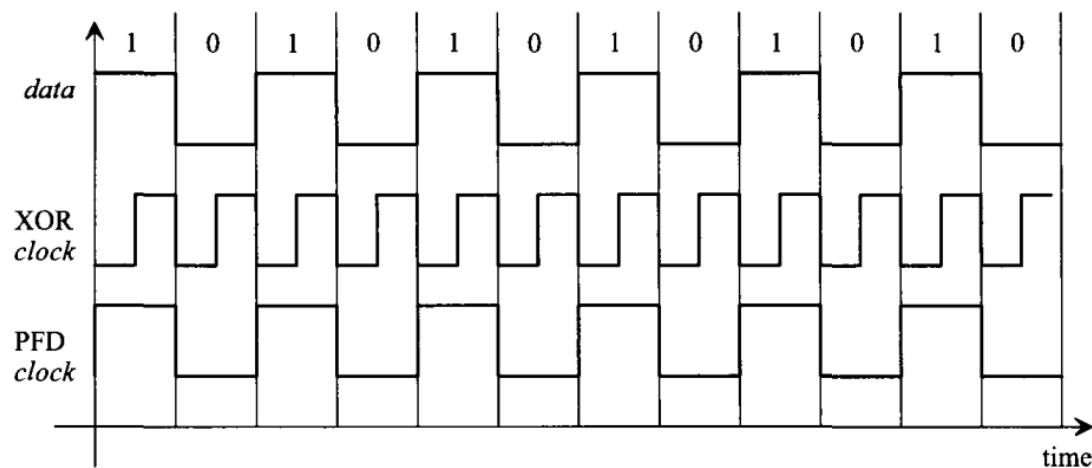

Figure 19.2 Data input to DPLL in lock and possible clock outputs using the XOR phase detector and PFD.
A more detailed picture of the incoming data and possible clock signals out of the DPLL are shown in Fig. 19.2. The possible clock signals are labeled XOR *clock* and PFD (phase frequency detector) *clock*, corresponding to the type of phase² detector (PD) used. For the XOR PD, the rising edge of the clock occurs in the center of the data, while for the PFD, the rising edge occurs at the beginning of the data. The phase of the clock signal is determined by the PD used³.